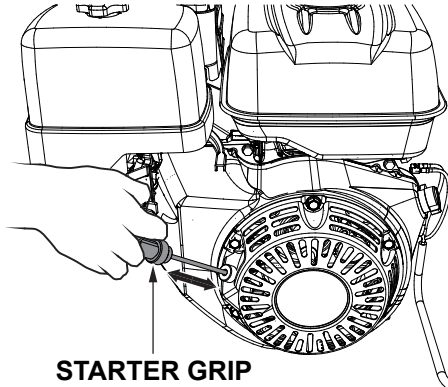

Figure 10. Starter Grip
- Grasp the starter grip (Figure 10) and pull it slowly. The resistance becomes strongest at a certain position, called the **compression point**. Once this position is reached, pull the starter grip briskly and smoothly to start the engine.